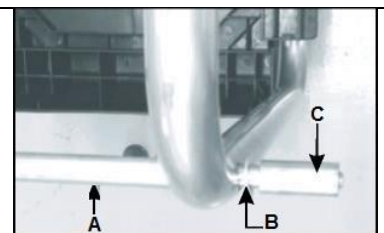

Fig. 3b
Put the supplied washer (B) and sleeve (C) onto the wheel axle (A) (Fig. 3B)